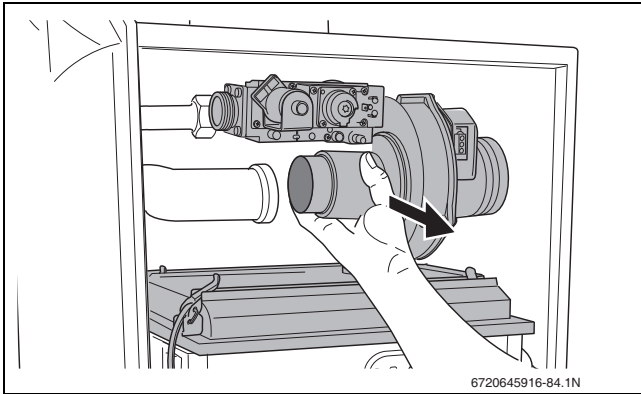

Fig. 86 Removing the burner cover with the gas/air unit
- ▶ Remove the burner cover with the gas/air unit (→ fig. 86).